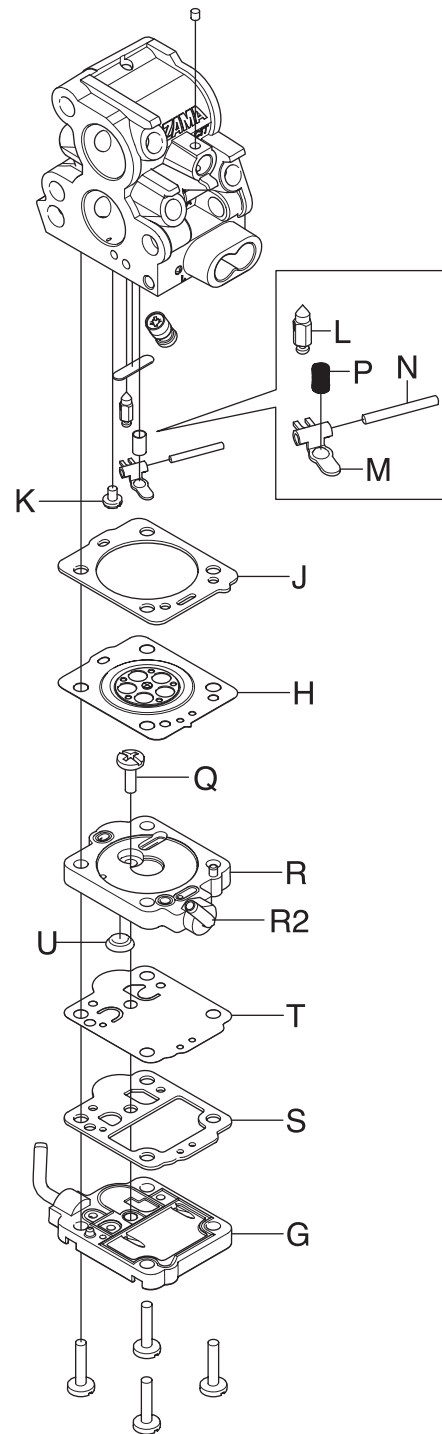

Fig 33
3. That the needle valve (L) and its lever (M) are not worn (see figure 33).
4. That the fuel screen (U) is whole and clean (see figure 33).
6. That the intake manifold (R2) is undamaged (see figure 33).
2. Fit the high (V) and low (W) speed needles and springs. Note! Do not fully tighten the screws. This will damage the seats and needle tips.
3. Fit the fuel filter (U) by using the handle of a small screwdriver. (see figure 33)
4. Fit pump cover (G), gasket (S) and measuring chamber cover (R) over the pump unit (see figure 33).